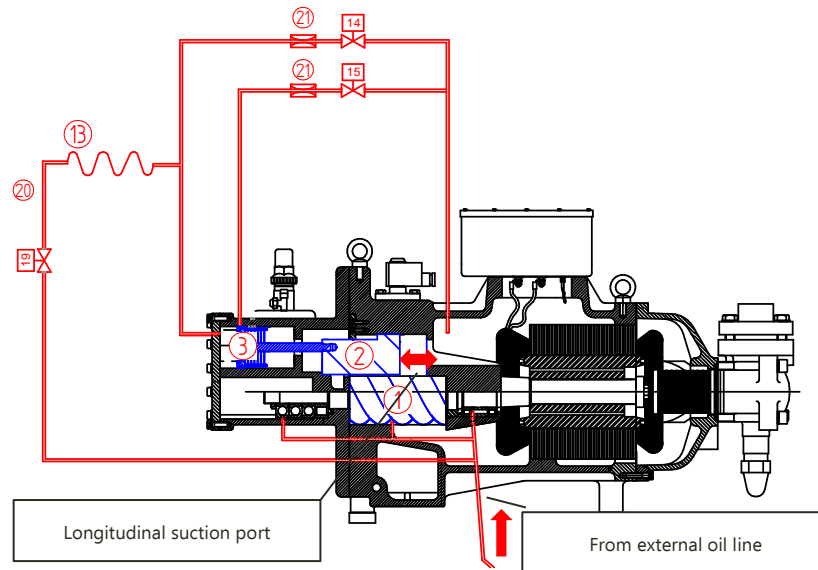

Fig. 17: infinite capacity control oil circuit (step less configuration)
The oil channels must be throttled to achieve slower motion and more accurate positioning of the control piston. With reference to the Fig. 17, the load channel (20) can be throttled by installing a modified capillary tube or a reduced orifice (13). The unload channel (14) or (15) can be throttled by installing an orifice (21) upstream the solenoid valve.
In the infinite configuration, on the other hand, this pipe is closed by the solenoid valve (19), see Fig. 17, which is normally closed. Consequently, unless the solenoid valve (14) is energized before stopping, the oil cannot flow out of the cylinder and as a result the compressor is not discharged.